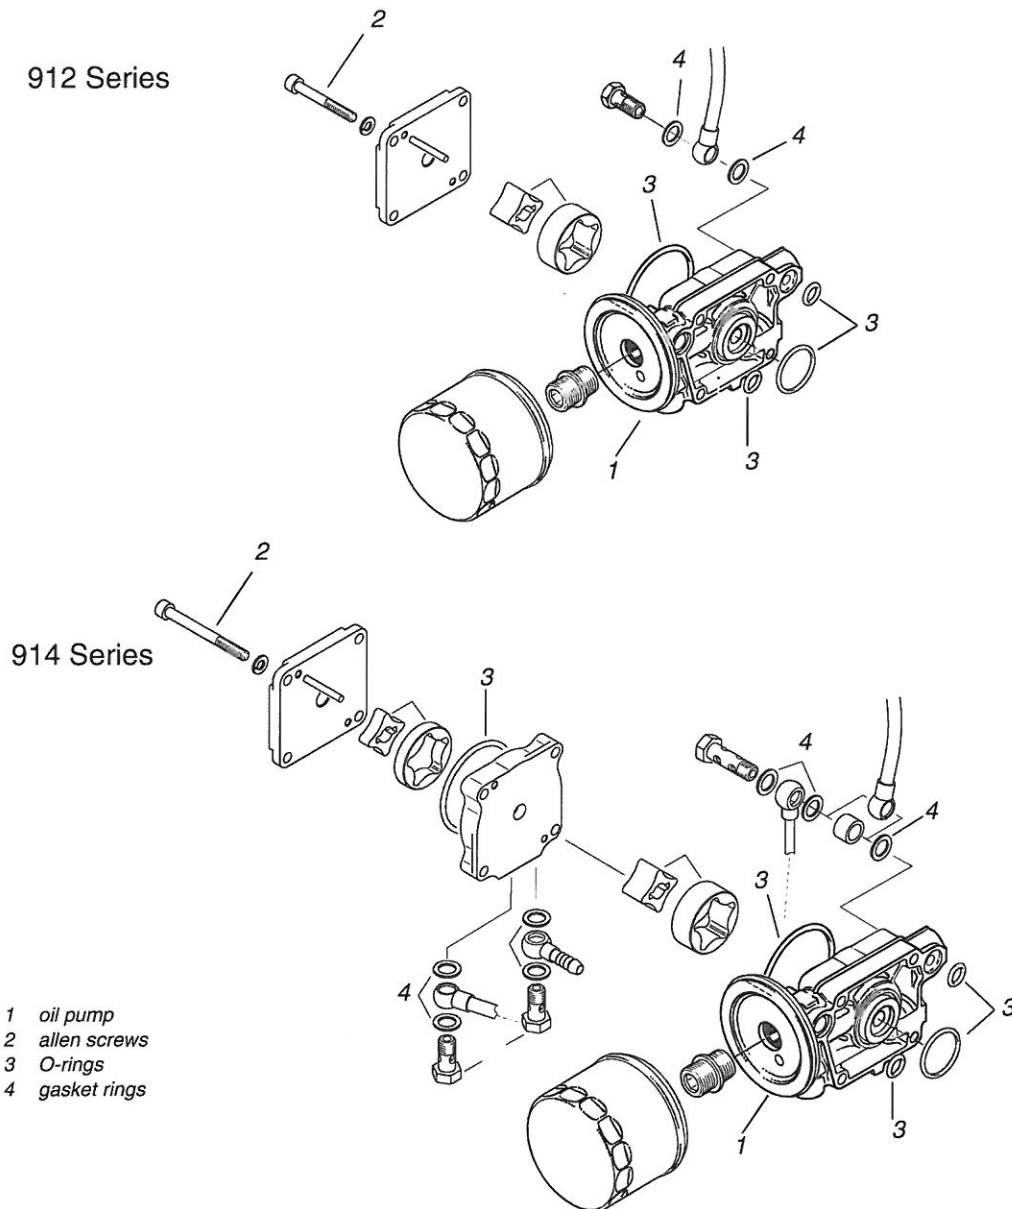

Fig. 1
1. Perform inspection for oil leaks in the area of the oil pump. See fig. 1.